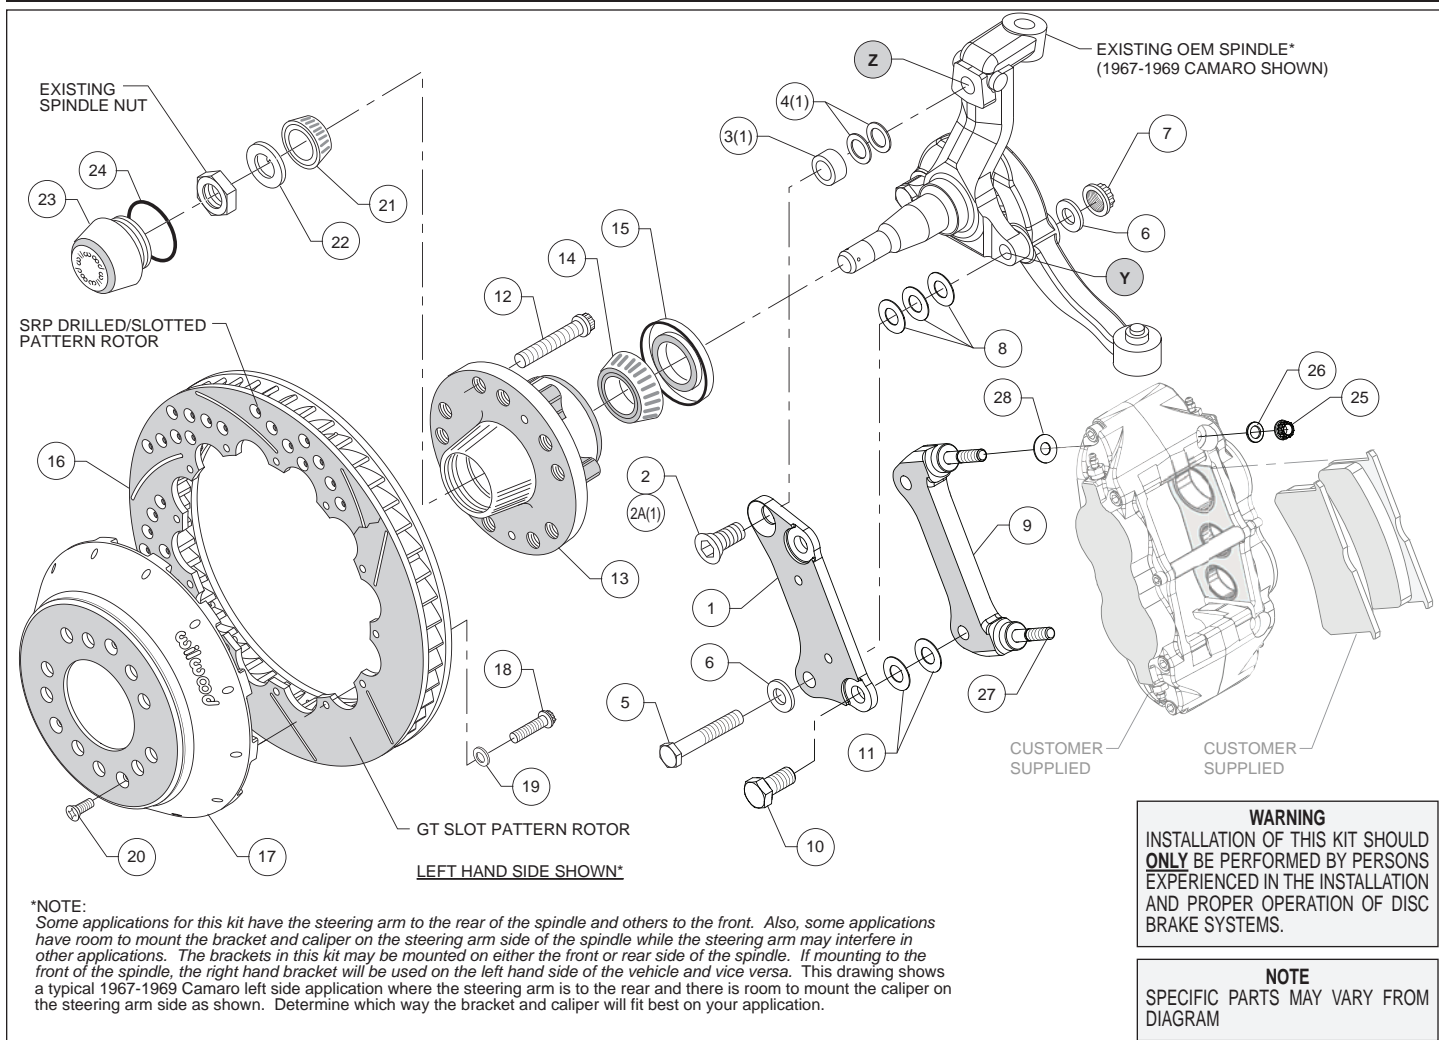
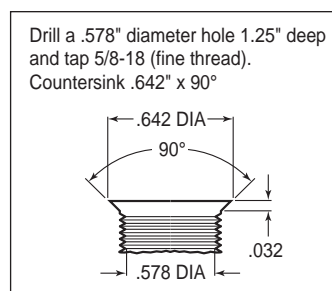
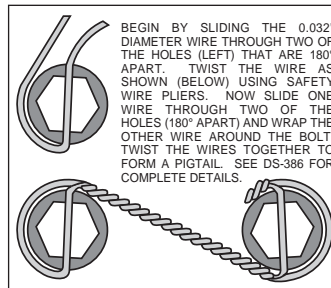

Figure 1. Typical Installation Configuration
Figure 3. Drill and Tap Detail
Figure 4. Safety Wire Diagram
Assembly Instructions (numbers in parenthesis refer to the parts list on the preceding page, and Figure 1):
•**NOTE:** Some applications for this kit have the steering arm to the rear of the spindle and others to the front. Also, some applications have room to mount the bracket and caliper on the steering arm side of the spindle while the steering arm may interfere in other applications. The brackets in this kit may be mounted on either the front or rear side of the spindle. If mounting to the front of the spindle, the right hand bracket will be used on the left hand side of the vehicle and vice versa. Figure 1 shows a typical 1967-1969 Camaro left side application where the steering arm is to the rear and there is room to mount the caliper on the steering arm side as shown. Determine which way the bracket and caliper will fit best on your application.
•**NOTE:** Some spindles in this year range may require the following modifications (reference Figure 1 and Figure 3): Top anchor pin hole (Z) must be drilled and tapped to the dimensions as outlined in Figure 3. The lower bolt hole (Y) in the spindle used to mount the new caliper bracket, and the mating steering arm hole, must be enlarged to .50" by drilling. It is recommended these modifications be performed by a qualified machinist.
•Install wheel studs (12) into the hub (13), Photo 1. Torque to 77 ft-lb. **NOTE:** There are two five lug patterns in the hub (5 x 4.50 and 5 x 4.75). Make sure of the correct hole pattern for the correct wheel application before installing studs into hub.
•Pack the large inner bearing cone (14) with high temperature disc brake bearing grease (available from your local auto parts store) and install into the backside of the hub (13).
•Install the grease seal (15) by pressing into the backside of the hub (13), Photo 2.
•Orient the rotor (16) and the hat (17) as shown in Figure 1 and Photo 3. Attach rotor to hat using bolts (18) and washers (19). Using an alternating sequence, apply red *Loctite*® 271 to the threads, and torque to 155 **in-lbs**. For an added measure of security, the bolts may be safety wired using standard 0.032 inch diameter stainless steel safety wire as shown in Figure 4. Please refer to Wilwood's data sheet DS-386 (available at www.wilwood.com/Pdf/DataSheets/ds386.pdf) for complete safety wire installation instructions.
•**Disc Brake Spindle Application Only:** Follow the instructions below, but instead use bolt (2A), spacer (3), and two .050" thick shims (4) in the upper bolt hole location, Figure 1.
•Orient the flat bracket (1) as shown in Figure 1 and Photo 4, and install using bottom bolt (5), washers (6), and nut (7), Figure 1. Initially place three .032" thick shims (8) between the bracket and spindle. Install the upper bolt (2 or 2A). Temporarily tighten bolts. **NOTE:** *The bracket must fit squarely against the mounting surfaces on the spindle.* Inspect for interference from casting irregularities, machining ridges, burrs, etc. Temporarily install the new hub, hat and rotor assembly. Check that the bracket is aligned parallel to the rotor, Photo 5. If not, adjust by adding or subtracting shims (8) on the lower bolt between the bracket and spindle, Figure 1. Once the bracket alignment is correct, remove the upper bolt (2 or 2A), apply red *Loctite*® 271 to the bolt threads, and torque to 120 ft-lb. Torque the lower lock nut to 65 ft-lb.
•The radial mount caliper bracket (9) should initially be installed with clean, dry threads on the mounting bolts. Orient the bracket as shown in Figure 1 and Photo 6, and install using bolts (10). Initially place two .029 thick shims (11) on each bolt between the two brackets, Figure 1. Temporarily tighten the mounting bolts. Later, after the caliper alignment has been checked, the mount bolts will be secured using red *Loctite*® 271.
•Pack the small outer bearing cone (21) with high temperature disc brake bearing grease and install into hub (13). Final install the hub assembly onto the spindle. Secure using spindle washer (22) and OEM spindle nut, Photo 7. Adjust bearings per OEM specifications. Install saved OEM nut lock (if any) and a new cotter pin (not included).
•Screw dust cap (23) into hub (13). Friction created by the o-ring (24) on the dust cap keeps it from unscrewing. **NOTE:** *The O.D. of the existing OEM spindle washer may be larger than the I.D. of the dust cap not allowing it to seat against the hub face. Therefore, use the spindle washer (22) supplied with the kit instead of the OEM washer.*
•Final install the rotor (16 and 17) assembly onto the hub (13), taking care to align the small countersunk holes in the hat with the small threaded holes in the hub. **NOTE:** *The hat must fit flush against the hub face or excessive rotor run out may result.* Install three flat head screws (20) through the small holes in the hat (17), Photo 8, and torque to 85 in-lb.
•**NOTE:** *This kit will utilize distinct right and left hand calipers (customer supplied) that must be mounted in a specific direction, as described below.* Lubricate the caliper mounting studs (27) with lightweight oil. Initially place one .035" thick shim (28) on each stud between the caliper and the bracket, as shown in Figure 1 and Photo 9. Mount the caliper onto the bracket (9) using lock nuts (25) and washers (26), Figure 1. Ensure that the caliper is mounted so the largest pistons are at the rotor exit end of the caliper, in relation to the direction of rotor rotation. Temporarily tighten the lock nuts. The rotor should be centered in the caliper, Photo 10. If not, adjust by adding or subtracting shims (11) between the flat bracket (1) and the caliper bracket (9). Always use the